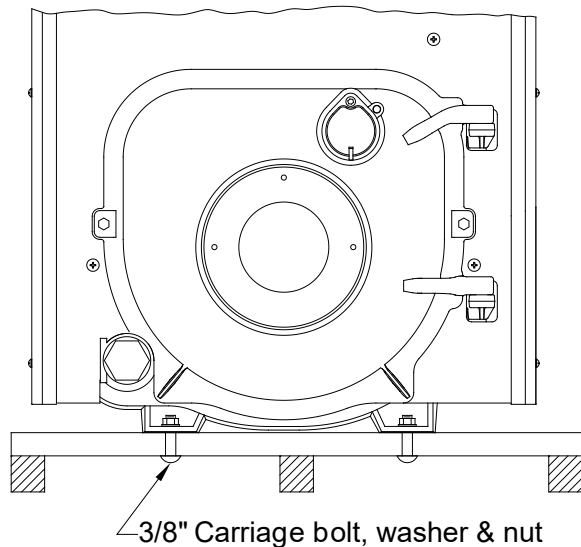

Figure 3-1: Packaged Boiler Removal from Skid
1. Boiler is secured to base with 4 bolts, 2 in front and 2 in rear of shipping skid, see Figure 3-1. Remove all bolts.